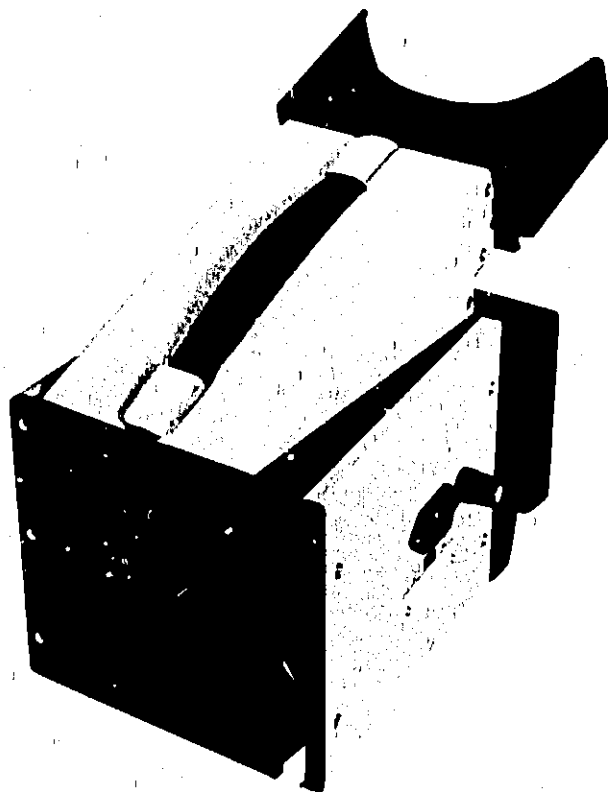

Figure 8-2. Left-hand Cover Removal
f. Remove three screws (first, third, and fifth) from right side of camera front ⑫ for left-hand cover (See Figure 8-2).
g. Press front of left-hand cover ⑬ from inside of camera until cover is clear of camera frame, then pull forward to disengage cover from guide pins on rear of frame.